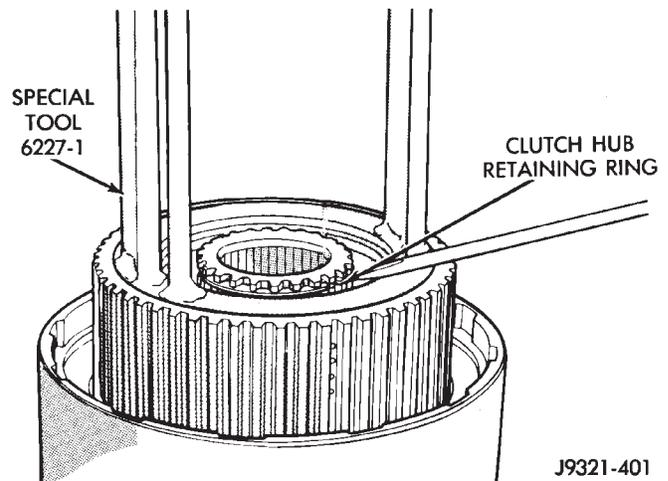

Fig. 252 Clutch Hub Retaining Ring Installation
(25) Install clutch hub retaining ring (Fig. 252). **Be very sure retaining ring is fully seated in sun gear ring groove.**
(26) Slowly release press ram, remove compressor tools and remove geartrain assembly.